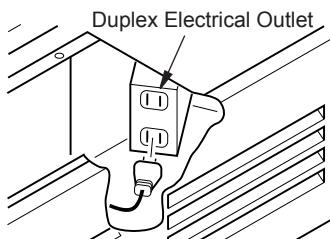

Figure 14 - Accessing Duplex Electrical Outlet Installed in Bottom Right Side of Firebox
⚠ WARNING: If there is a duplex electrical outlet installed in the right side of the bottom of the fireplace base area (see Figure 14), be sure that the electrical power to the outlet is turned off before proceeding with blower installation. Failure to do this may result in serious injury.
12. Plug in blower power cord to duplex outlet (see Figure 14, page 15).
6. Plug in blower power cord to duplex outlet (see Figure 14, page 15).